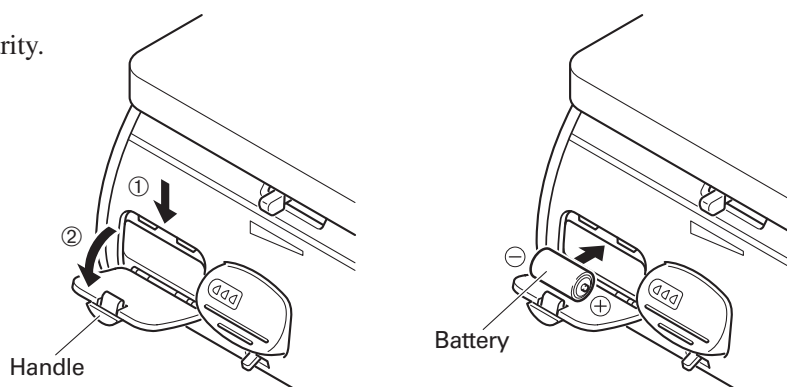

Fig. 6
- * Battery Case is located at left hand side of the front control panel. (Fig. 6)